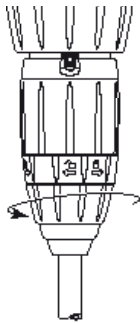

Fig. 15
- Unscrew the nut and pull downwards to remove the suction tube (Fig. 15).